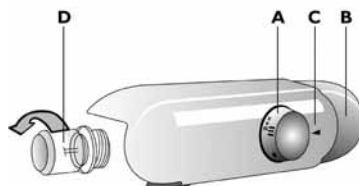

fig. 1
- If the refrigerator compartment of your appliance is fitted with a thermostat box and an external panel, the temperature of both compartments is adjusted using the thermostat knob as shown in figure 1. Move the knob to the ● position to switch the whole appliance off.
- If in addition to the internal thermostat box your appliance also has an external control panel with an adjustment knob, the temperatures of the two compartments must be adjusted separately. The knob of the thermostat inside the refrigerator compartment is used for adjusting the temperature of the refrigerator compartment only (see fig. 1), while the external panel is used to adjust the temperature of the freezer compartment (see the quick guide).
To remove the light bulb turn anticlockwise as shown in figure 1.